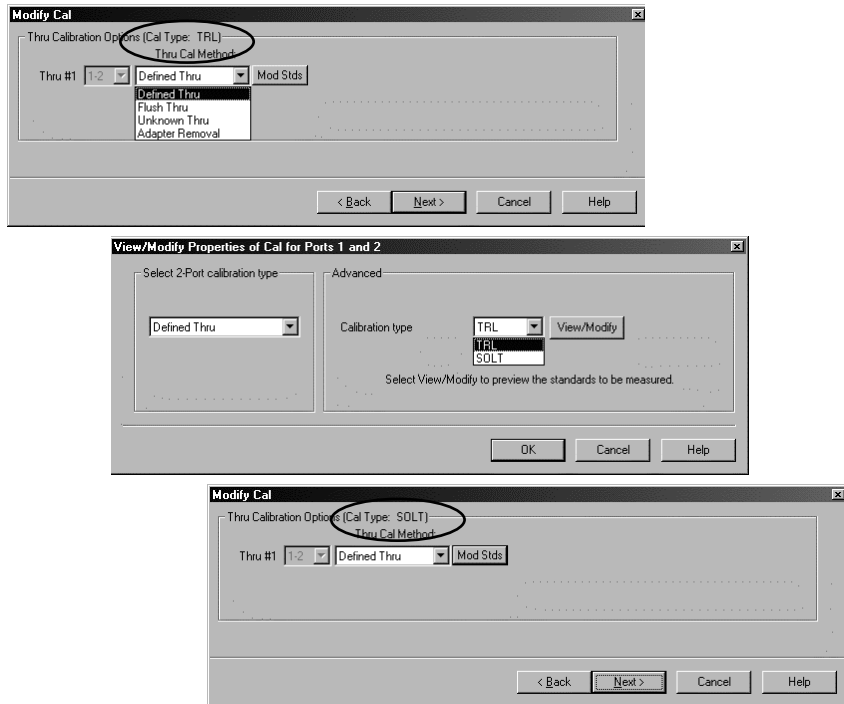

Figure 37. Changing *Cal Type*.
4. Use dropdown menu and then the scroll bar to select the DUT connectors (Figure 36, bottom). Also, use dropdown menu to select the available calibration kit based on the selected DUT connectors. Notice, the default *Cal Method* is *2-Port, Defined Thru, TRL*. Plus, if "Modify Cal" is not selected, then steps shown in Figure 37 will be skipped. Click **Next>**
5. Having selected "Modify Cal" allows you to change the *Cal Type*. Figure 37 (top) shows *Cal Type: TRL*, you can click **Mod Stds**, and then use the dropdown menu on the right to select a different cal type. Figure 37 (middle) shows the selection of **SOLT**. Clicking **OK** returns you to the previous screen, and this time it shows the *Cal Type: SOLT* (Figure 37, bottom).